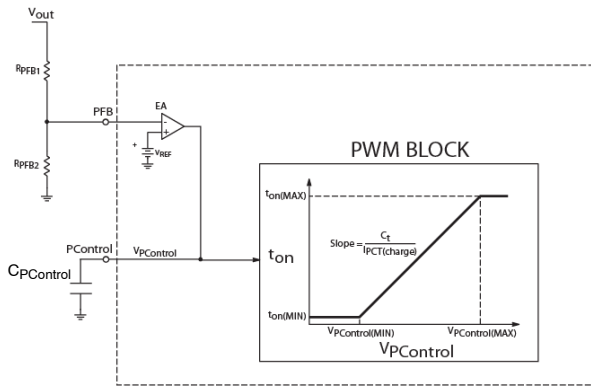

Figure 19. Error Amplifier and On Time Regulation Circuits
The NCP1927 error amplifier (EA) consists of an operational transconductance amplifier (OTA) with the inverting input connected to the PFB pin and the output connected to the PControl pin to regulate the output voltage. It features a typical transconductance (gm) of 200 μS and a maximum output (IEA(SRC) and IEA(SNK)) of ±20 μA (typical). The non-inverting input is connected internally to a voltage reference (VREF) with a typical value of 2.5 V ±1.5% over process and temperature. During normal operation, the voltage on the PControl pin varies between VPCONTROL(MIN) (typically 0.6 V) and VPCONTROL(MAX) (typically 5.6 V). A simplified diagram of the OTA circuit is shown in Figure 19.
This creates a ripple on the output with frequency equal to twice the line frequency (fline). Since the on time must remain constant during each ac line cycle to maintain good power factor correction, the EA must reject the output ripple. This is commonly achieved by setting the regulation bandwidth below 20 Hz. A type 1 compensation network is typically used for simplicity, as it only requires a single capacitor (CPCONTROL) connected between the PControl pin and ground (see Figure 19). For a type 1 network, CPCONTROL is calculated using Equation 10.